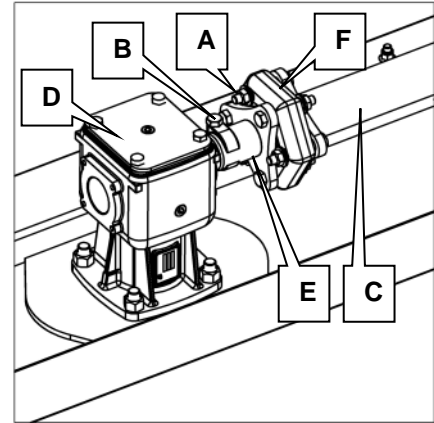

Figure 8.5
- 8.5.4.1 Remove the six flexible coupling mounting bolts, Figure 8.5 (A).
- 8.5.4.2 Loosen the relevant short driveshaft clamping bolt, Figure 8.5 (B).
- 8.5.4.3 Slide the long driveshaft, Figure 8.5 (C) away towards the opposite rotor gearbox.
- 8.5.4.4 Slide the short driveshaft, Figure 8.5 (E) towards the relevant rotor gearbox, Figure 8.5 (D).
- 8.5.4.5 Remove the flexible coupling, Figure 8.5 (F) and both drive shafts and store them safely.